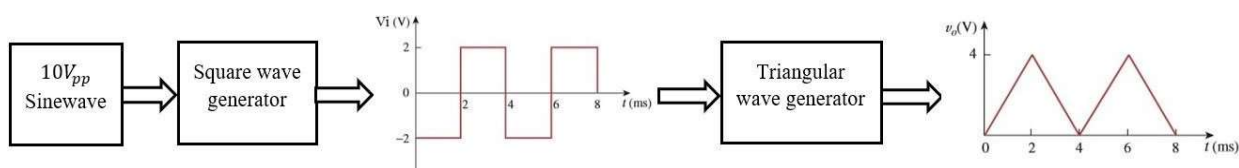

Fig. 1
Fig.1 shows a design process of a Triangular wave generator circuit. The design process includes two design segments (a square wave generator & a triangular wave generator) to get the final output v_o (V). Use a 10V_{pp} sinusoid as input and operational amplifiers to the design. Design the circuit components, implement, and finally test the circuit. [Note that, for design purposes, the values of the resistors should not exceed more than 10kΩ.]